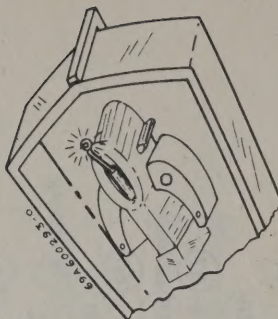

FIGURE 11. ELECTRO-VOICE
2. Motorola needle, Part No. 59K691909, is used in the Electro-Voice cartridge. It is not held with a nut, but is pushed into the cartridge (see Figure 11). To remove the needle, pull it from the cartridge with